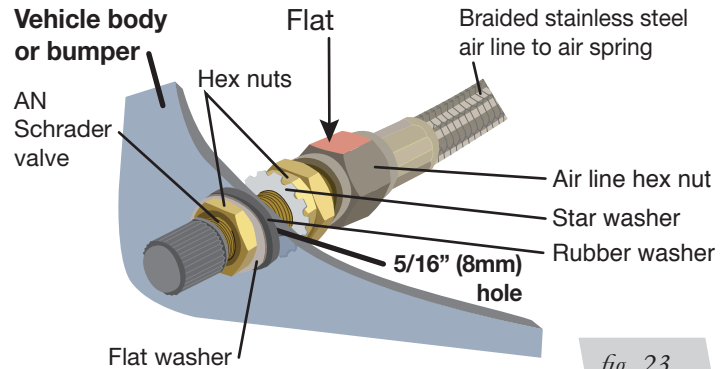

fig. 23
2. Tighten the air line hex nut finger tight, then use 2 wrenches to turn 1 additional flat (1/6 of one full turn). **Do not overtighten** (Figs. 23 or 24). The easiest way to tighten the fitting is off the vehicle. Install the Schrader valve in the chosen location.